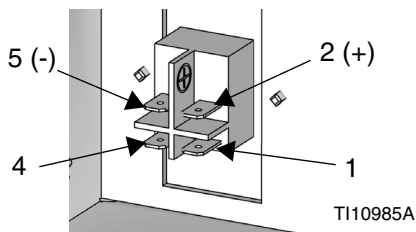
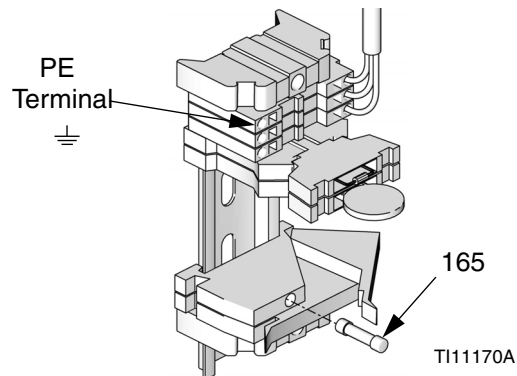

FIG. 37
FIG. 38
2. Mount 24 VDC module (154) on mounting bracket (151).
3. Mount power switch (159) on mounting bracket (151).
4. Attach quick disconnects on cable from 24 VDC module (154) to terminals on power switch (157).
5. Install power supply output cable to CAN cable (163).
6. Attach 24 V Class 2 power supply to terminals on the power switch: +24 VDC to terminal 2 (+) and 24 VDC return to terminal 5 (-). See FIG. 37. Attach protective earthing (PE) conductor to terminal marked $\perp$. See FIG. 38. The 24 VDC power supply must be capable of supplying at least 1.0 Amp and have supply current protection rated at no more than 2.5 Amps.
7. Install cover plate (160), screws (156), and washers (164).